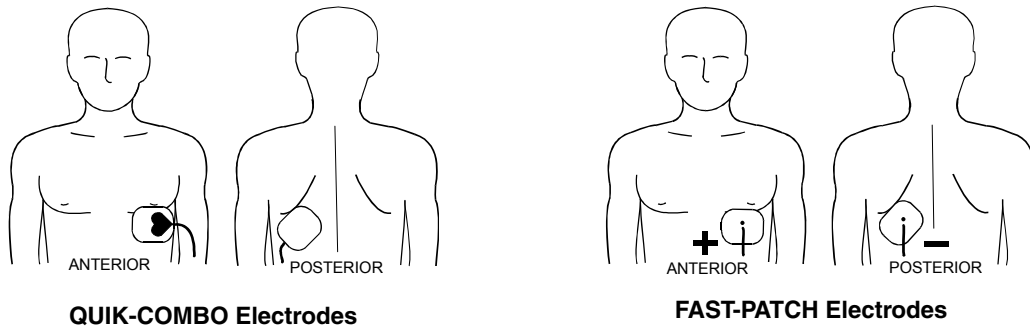

Figure 4-2 Anterior-posterior Placement for Noninvasive Pacing or Defibrillation
- 1 Place either the ♥ or + therapy electrode over the left precordium as shown in Figure 4-2. The upper edge of the electrode should be below the nipple. Avoid placement over the nipple, the diaphragm, or the bony prominence of the sternum if possible.
- 2 Place the other electrode behind the heart in the infrascapular area as shown in Figure 4-2. For patient comfort, place the cable connection away from the spine. Do not place the electrode over the bony prominences of the spine or scapula.